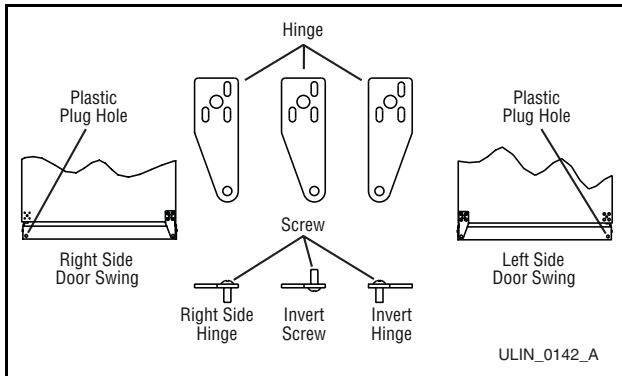

Figure 26
- Remove plastic hole plug from door handle and relocate on opposite side (**Figure 26**).
- Remove pivot screw from top hinge, invert screw and reinstall pivot screw in top hinge (**Figure 26**).